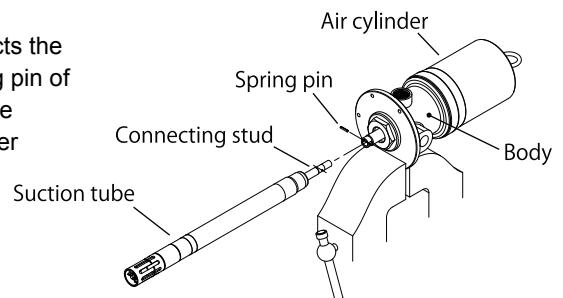

Fig. 3
- 5) Pull out the suction tube, and the connecting stud that connects the piston rod of the air motor becomes visible. Pull out the spring pin of the connecting section and unscrew the connecting stud or the lower pump, and the air motor can be separated from the lower pump. (Fig. 3)